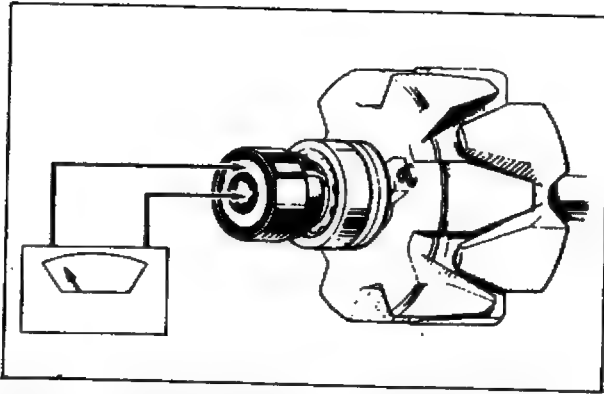
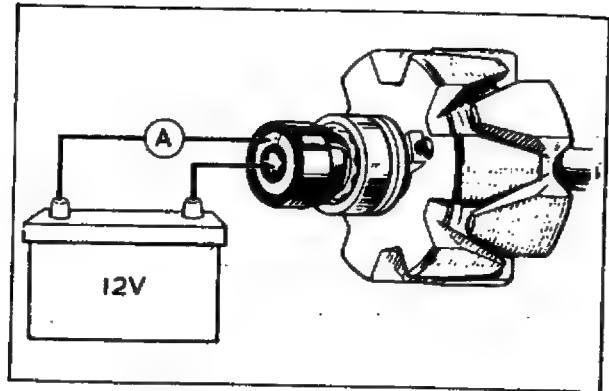

Fig. 38 – Measuring rotor winding resistance with ohmmeter
Fig. 39 – Measuring rotor winding resistance with battery and ammeter
Check field winding continuity and resistance simultaneously, by connecting either a battery-operated ohmmeter (see Fig. 38) or a 12V battery and moving-coil ammeter (see Fig. 39) between the slip-rings. The ohmmeter should indicate the appropriate resistance given in TECHNICAL DATA, or the ammeter should indicate a current approximate to the figure obtained by dividing the appropriate resistance of the rotor into the battery voltage (12).